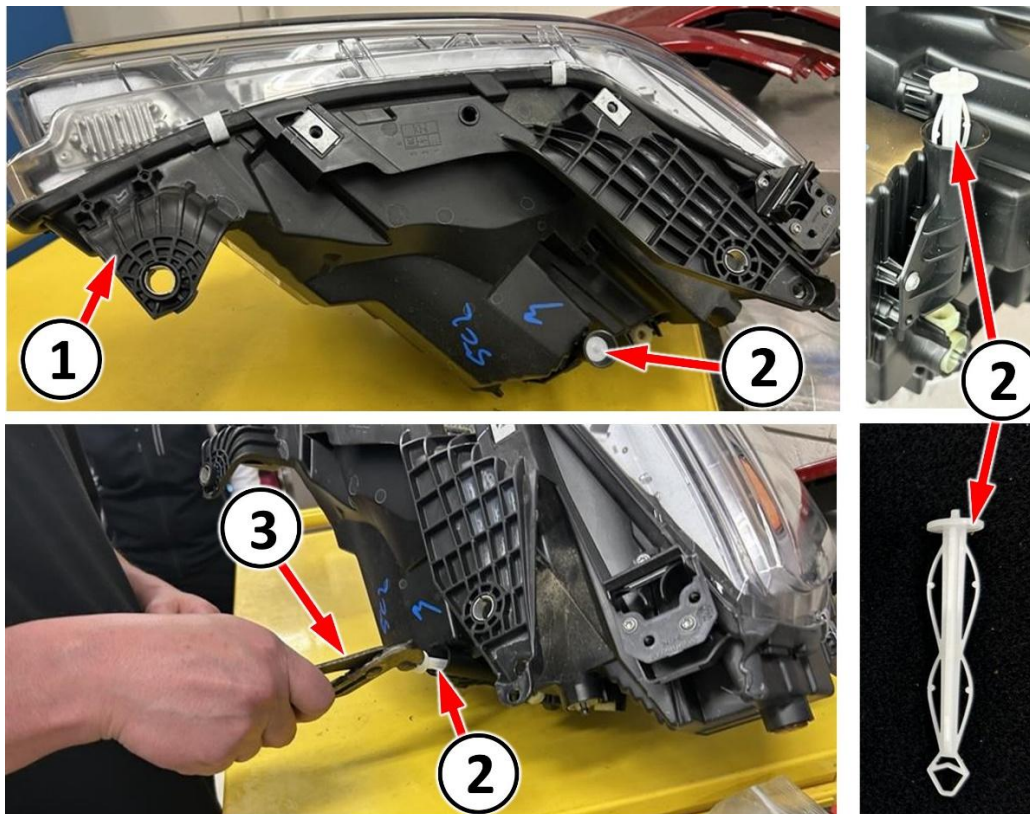

Figure B20 – Headlamp Alignment Anti-Tamper Plug
32. Remove the anti-tamper plug from the suspect headlamp and set aside for later installation into the **NEW** headlamp assembly (Figure B20).
54. Install the anti-tamper plug in the headlamp after headlamp aiming is complete (Figure B20).